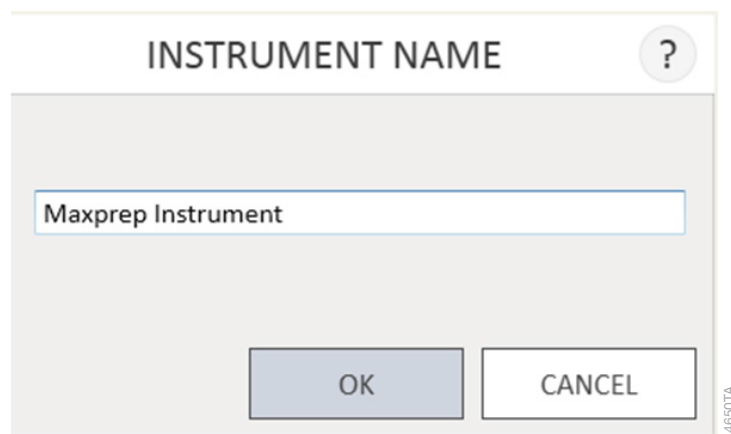

Figure 27. 'Instrument Name' screen. Use this screen to enter a name for this Maxprep™ Liquid Handler.
2. On the 'Instrument Name' screen, select the text box and enter the desired name for this instrument (Figure 27). The instrument name should be entered following the procedures and rules at your site.